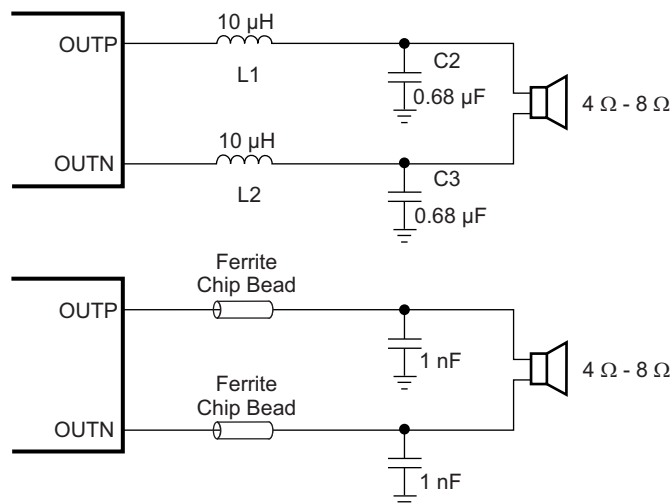

Figure 34.
- Output filter — The ferrite EMI filter (see Figure 34) should be placed as close to the output terminals as possible for the best EMI performance. The LC filter should be placed close to the outputs. The capacitors used in both the ferrite and LC filters should be grounded.